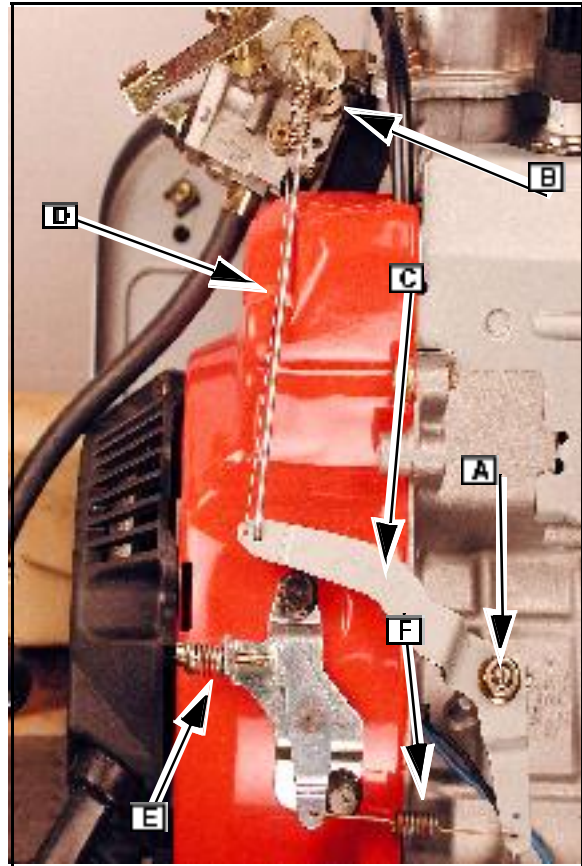

Fig. 3
series of interconnecting linkages and springs ([D] Fig. 3).
The engine speed at which these two forces balance is called the governed speed and can be set by using different spring combinations or adjustments (E) to the tension of the governor return spring ([F] Fig. 3).